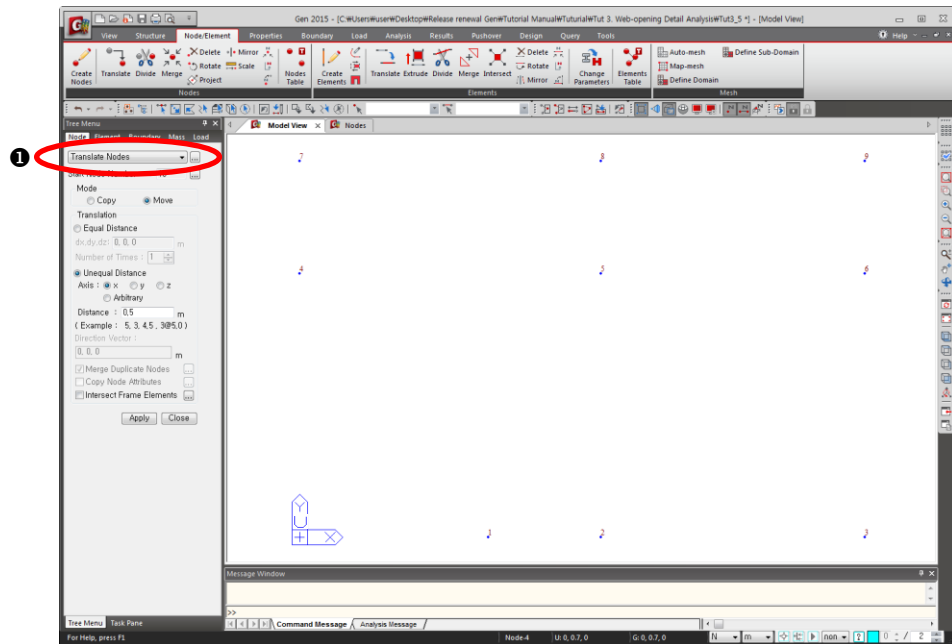

Figure 3.2 Generation of Nodes for Element Positions
6. Select *Translate Nodes* in the functions selection field (Fig.3.2–1).